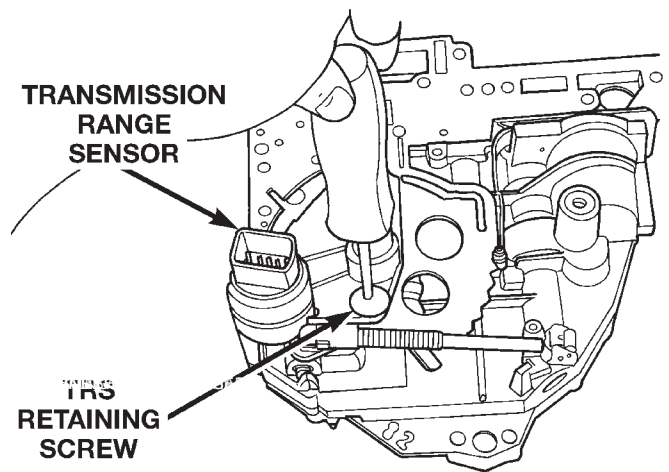

Fig. 28 Remove Retaining Screw
- (12) Remove TRS retaining screw (Fig. 28).